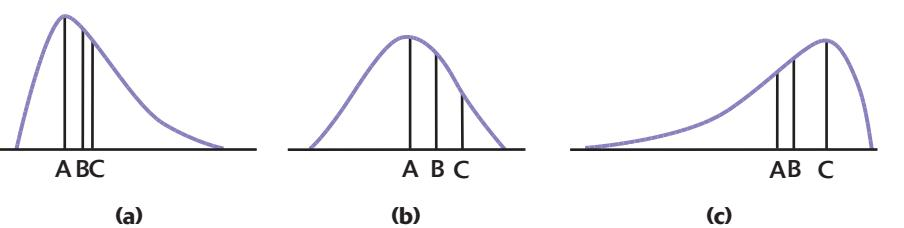

FIGURE 1.19 Three density curves, for Exercise 1.61.
- 1.61 Figure 1.19 displays three density curves, each with three points marked on them. At which of these points on each curve do the mean and the median fall?